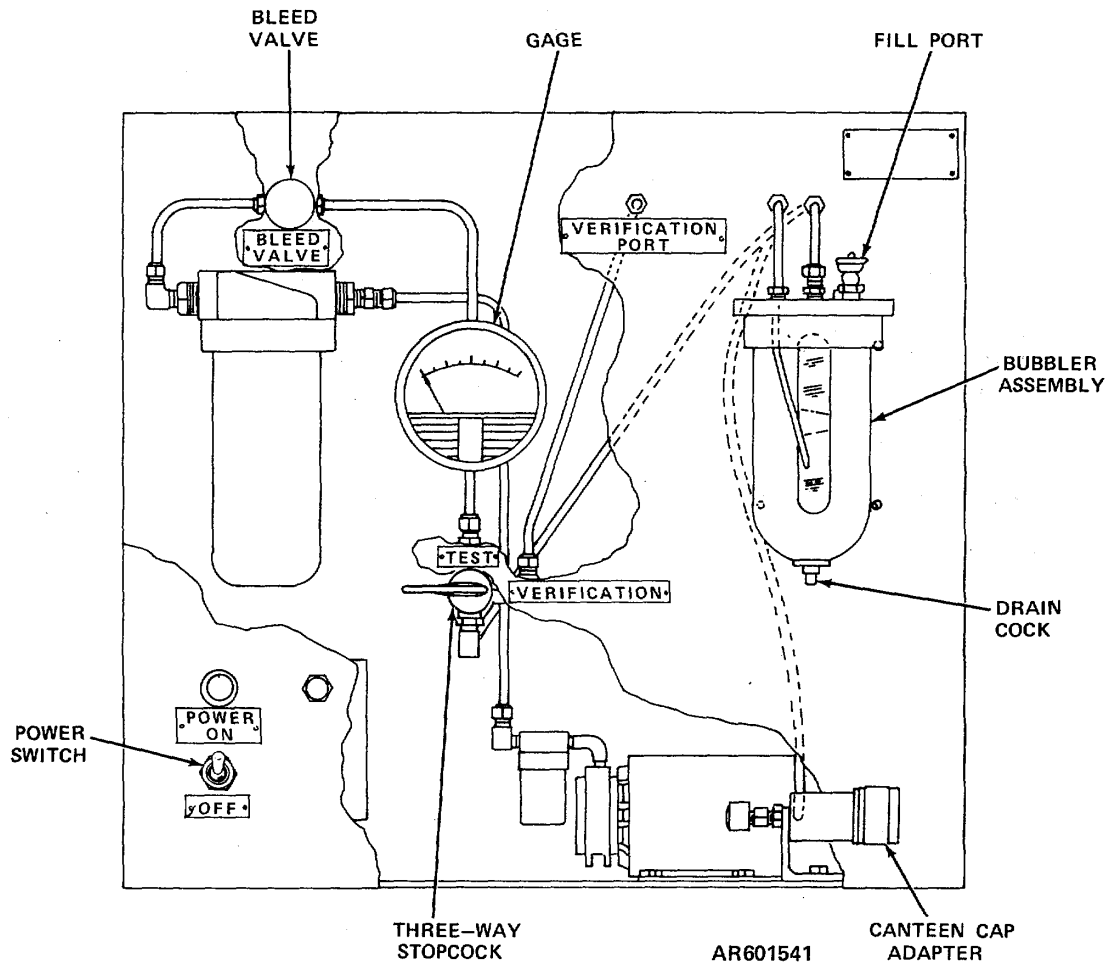

Figure 2. Location of TI controls and instruments used during calibration.
**7. Equipment Setup (fig. 2).** *a.* Adjust mechanical zero-adjustment on TI gage to zero.